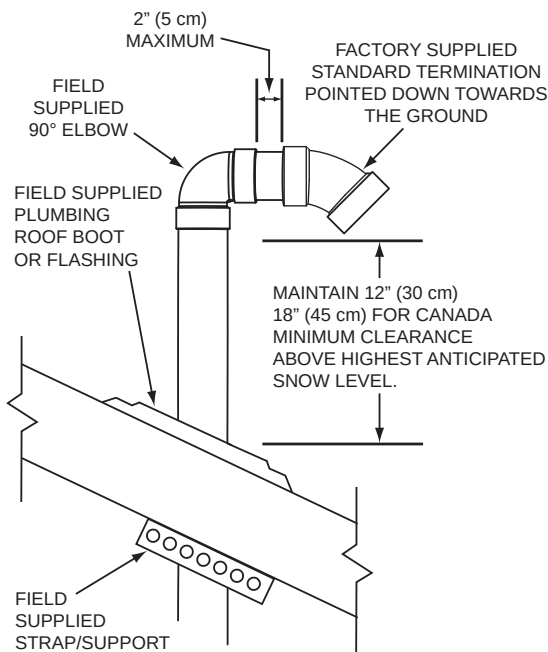
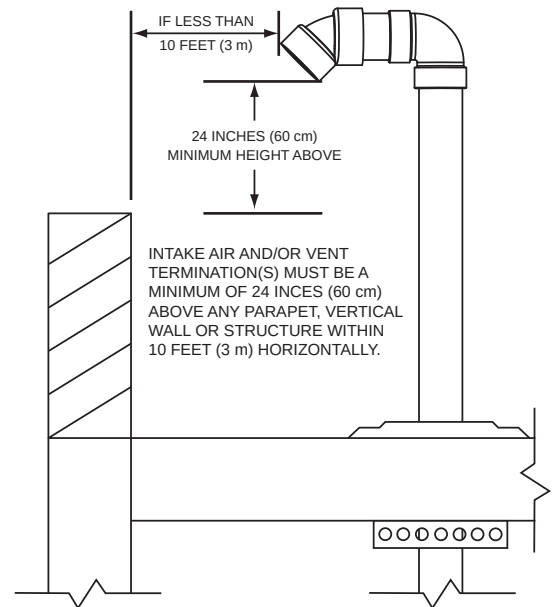
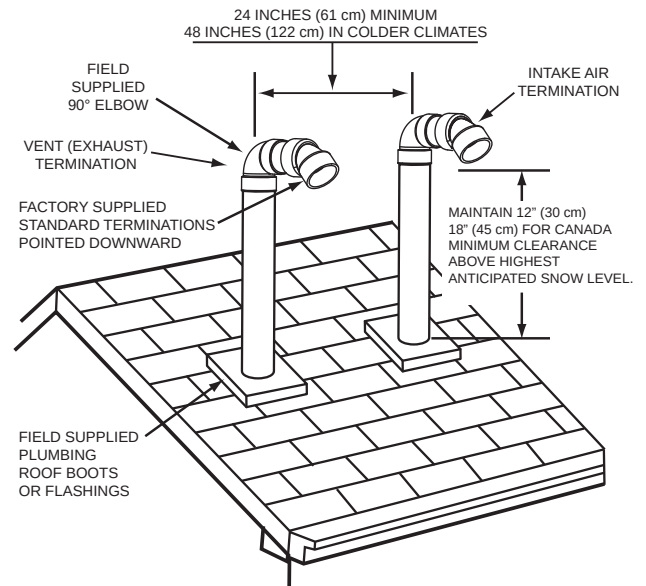

Figure 22. Vertical Termination(s) Installation:
Figure 23. Vertical Termination Flat Roof Clearance - Intake Air and/or Vent (Exhaust)
Figure 24. Vertical Termination - Direct Vent:
2. If installing only the vent (exhaust) piping in a Power Vent configuration vertically through the roof; ensure that all exterior vertical clearance requirements shown in **Figure 22** (page 25) and **Figure 23** (page 25) are being maintained. These clearances and those cited by local and national codes must be maintained.
- **NOTE:** On flat roof installations the vent termination must be a minimum of 24 inches (60 cm) above any parapet, vertical wall or structure within 10 feet (3 m) horizontally. See **Figure 23**.
3. If installing both intake air and vent piping in a Direct Vent configuration vertically through the roof; ensure that all exterior vertical clearance requirements shown in **Figure 22** (page 25) and **Figure 23** (page 25) are being maintained. These clearances and those cited by local and national codes must be maintained.
- **NOTE:** On flat roof installations the intake air and the vent terminations must be a minimum of 24 inches (60 cm) above any parapet, vertical wall or structure within 10 feet (3 m) horizontally. See **Figure 23** (page 25).
- The vent termination must be oriented facing downward as shown in **Figure 22** and **Figure 23** (page 25).
- The bottom edge of vent termination must be a minimum of 12 inches (30 cm), 18 inches (45 cm) in Canada, above average or expected snow level as shown in **Figure 22** (page 25).
- The intake air and vent pipes must penetrate the same side of the roof as shown in **Figure 24** (page 25).
- The intake air and vent terminations must be oriented facing downward and in the same direction as shown in **Figure 24** (page 25).
- The intake air and vent terminations must have a minimum separation of 24" (61 cm) measured on center line as shown in **Figure 24** (page 25). In colder climates this separation should be increased to at least 48 inches (122 cm).
- The bottom edge of the intake air and vent terminations must be a minimum of 12 inches (30 cm), 18 inches (45 cm) in Canada, above the average or expected snow level as shown in **Figure 22** and **Figure 24** (page 25).
- The distance between the closest vent and intake air terminations must be a minimum of 24 inches (61 cm) as shown in **Figure 24** (page 25). In colder climates this separation should be increased to at least 48 inches (122 cm).
8. Suspend the pipe(s) through center of hole using field supplied metal strapping or equivalent support materials as shown in **Figure 22** (page 25).
9. Slide a roof boot or equivalent flashing over the pipe and secure roof boot or equivalent flashing to roof and seal around the flashing as shown in **Figure 22**, **Figure 23** (page 25), and **Figure 24** (page 25).
10. Install the factory supplied intake air and/or vent termination(s) using field supplied pipe and one field supplied 90° elbow as shown in **Figure 22** (page 25). The short section of pipe that connects between the field supplied 90° elbow and the factory supplied termination must not be excessive in length. The exposed portion of this pipe shall be no more than 2 inches (5 cm).